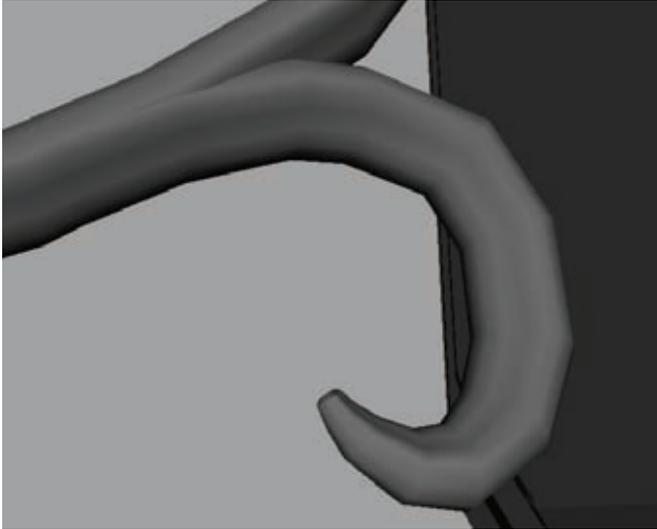

Figure 6.14
- Select the new face and use the Extrude command to extend and taper the end of the shape. You can also scale the existing edge loops to smoothly taper the end of the surface. Do the same for the other (Figure 6.14).